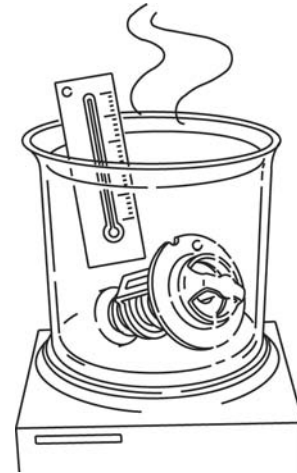

Fig. 27
2. Immerse thermostat in water and heat water gradually, Fig. 27.